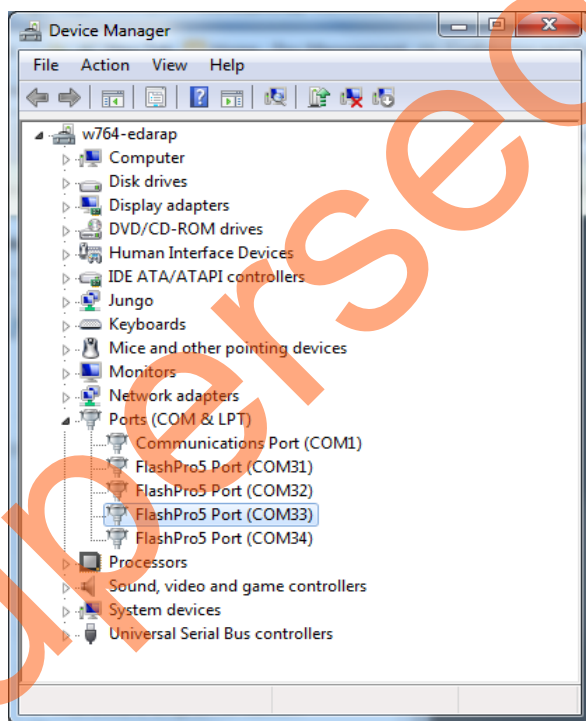

Figure 16 • Device Manager
1. Connect the Host PC to the J33 Connector using the USB A to mini-B cable. The USB to UART bridge drivers are automatically detected. Download and install the drivers from www.microsemi.com/soc/documents/CDM_2.08.24_WHQL_Certified.zip if the drivers are not installed or detected automatically. Verify if the detection is made in the device manager as shown in Figure 16.